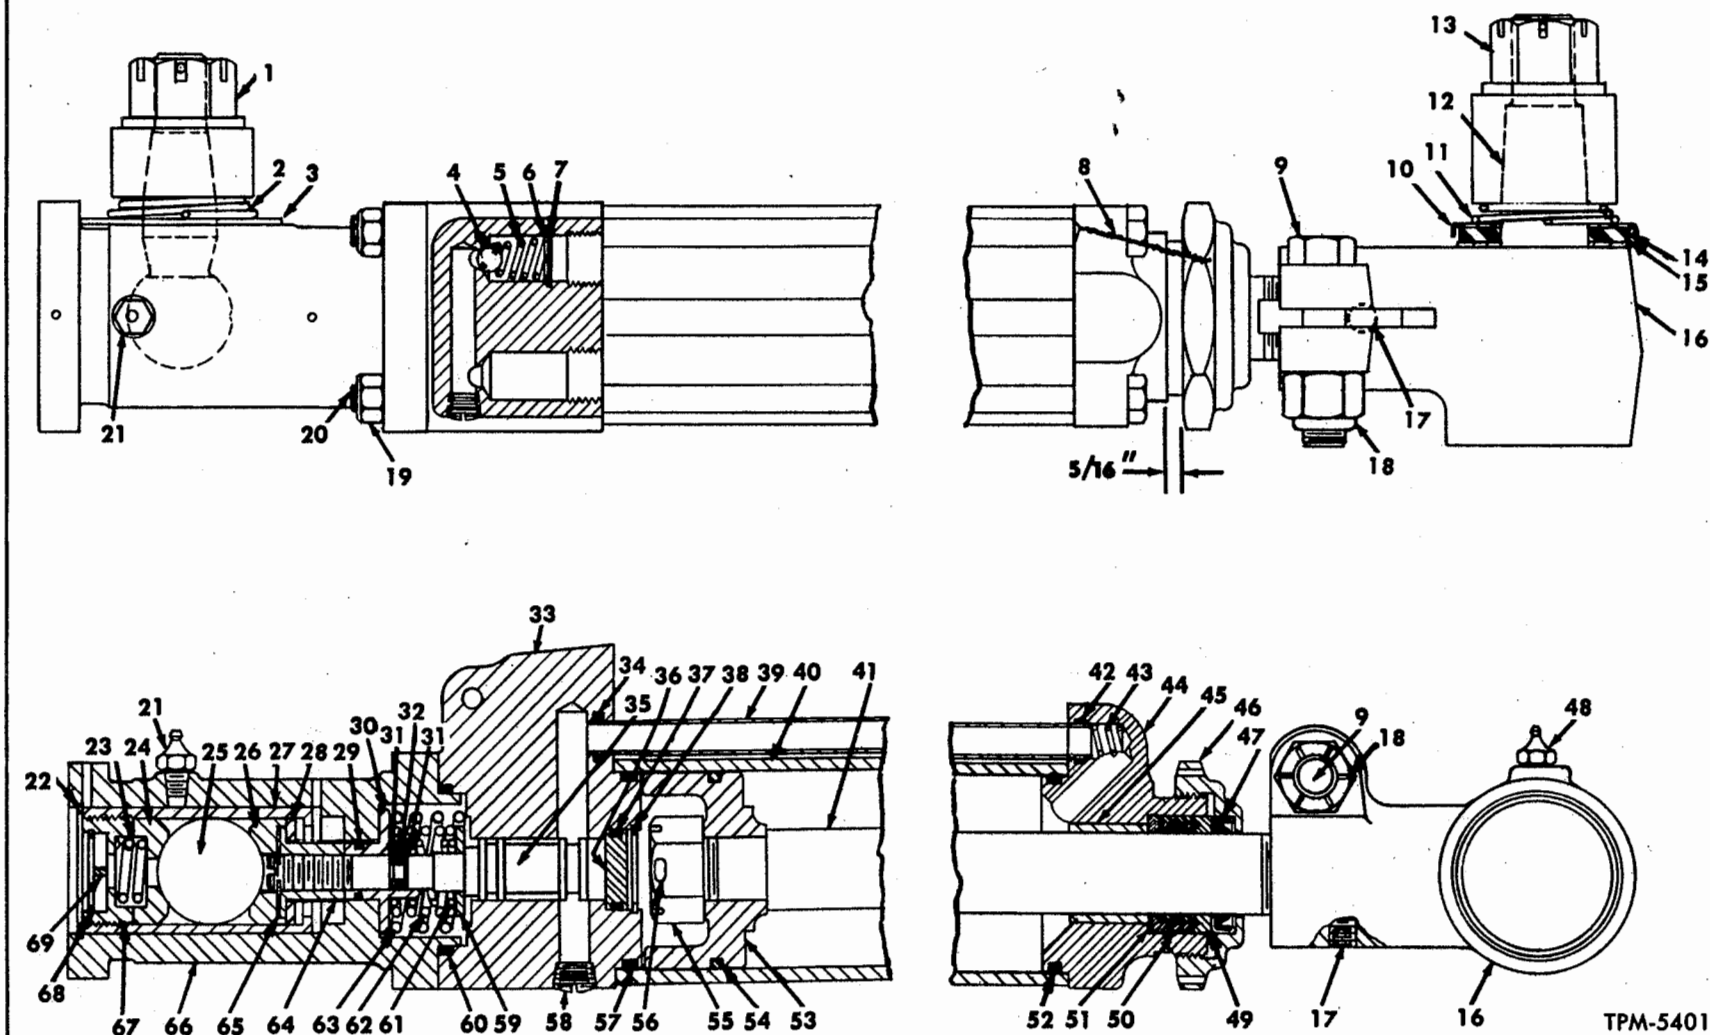

Figure 15—Power Steering Booster Cylinder Assembly
NOTE: Key numbers in text refer to figure 15.
Captions For Figure 15—Opposite Page
19. Install new cylinder cap O-ring seal (52) into groove of cylinder cap (44) making sure seal ring is well seated into groove.
20. Position cylinder cap (44) over piston rod (41) and against cylinder tube (40), aligning alignment marks on cylinder cap with marks on cylinder tube.
21. Press new piston rod wiper seal (47) in piston rod packing nut (46). NOTE: Install seal with seal lip position as shown in figure 15.
22. Position one new piston rod packing inner adapter (51), five piston rod chevron packing (50), and one piston rod packing outer adapter (49) over end of piston rod (41) and into cylinder cap (44).
IMPORTANT: Adapters and packing must be positioned as shown in figure 15.
23. Place piston rod packing nut (46) over end of piston rod and on cylinder cap (44). Tighten packing nut to dimension shown in figure 15. Install new lock wire (8) later. NOTE: Piston rod packing nut (46) should not be tightened excessively as piston rod (41) and piston (53) should slide freely in cylinder tube (40) with hand pressure of approximately 35 lbs. of force.
24. Insert oil passage tube spring (43) in bore of cylinder cap (44).
25. With aligning marks on valve body (33) aligned with marks on cylinder cap (44) and cylinder tube (40), move valve body against cylinder tube, at the same time inserting oil passage tube (39) into bore of valve body (33) and bore in cylinder cap (44) against oil passage tube spring (43).
26. Place ball stud body (66) and parts against valve body (33), aligning marks on ball stud body with marks on valve body. Make certain aligning marks on ball stud body (66) valve body (33), cyl-
27. Install new lock wire (8) around one thru stud and through hole in packing nut as shown in figure 15.
28. While holding piston rod (41) with a 1-inch open end wrench, turn piston rod end socket (16) on piston rod (41) and adjust for length as described later under "Booster Cylinder Piston Rod End Socket."
30. Install ball stud seat (26), ball stud (25), ball stud seat (24), ball stud spring (23), and ball stud plug (67) in ball stud sleeve (27). Tighten plug (67) against spring solidly, then back off to first key slot in ball stud sleeve.
31. Position ball stud plug lock key (69) through slots in ball stud plug (67) and ball stud sleeve (27), then install snap ring (68) in groove of ball stud plug (67) to hold lock key (69) in place.
32. Using snap ring pliers, install snap ring (22) in groove of ball stud body (66).
33. If steering booster cylinder assembly is not to be installed on coach immediately after overhaul procedures have been completed, install pitman rod dust cover (3), dust cover spring (2), and stud nut (1) on ball stud (25), so these parts will not become lost before ready for use.